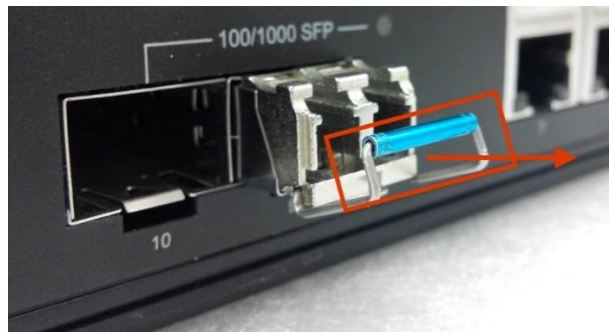

Figure 2.5: Pull Out from the SFP Module
Step 2 Push down the metal clasp and pull the transceiver out by the plastic part as shown below in Figure 2.5